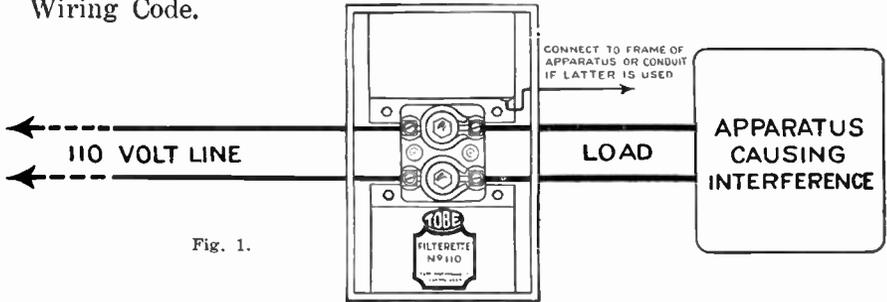

Fig. 1.
A. Tobe Filterette No. 110 should be connected directly at the power input to the motor, as shown in Figure 1. The return lead from the Filterette should be connected to a carefully cleaned part of the motor frame, and the entire Filterette installation should be made in accordance with the National Electric Wiring Code.